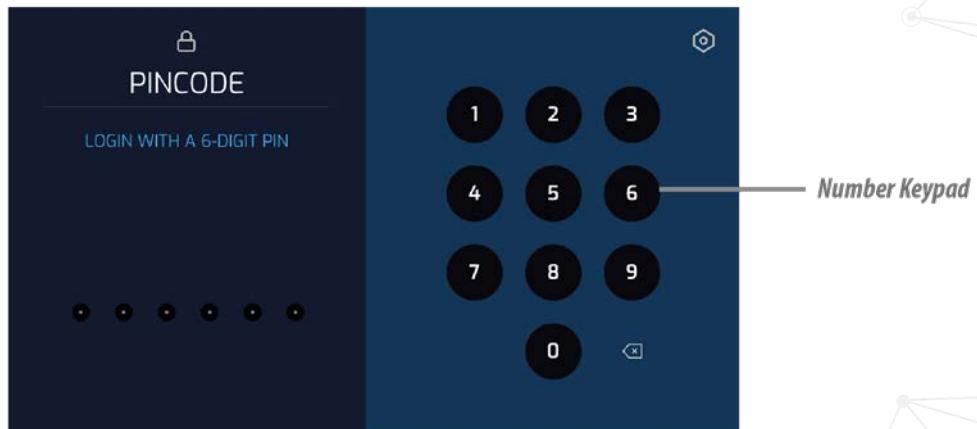

Figure 8: PIN Code Screen
4. Enter the relevant Operator or Admin/Lab User PIN code using the touch Screen digits as illustrated in Figure 8. The circles on the bottom left of the Screen will turn blue as digits are entered.